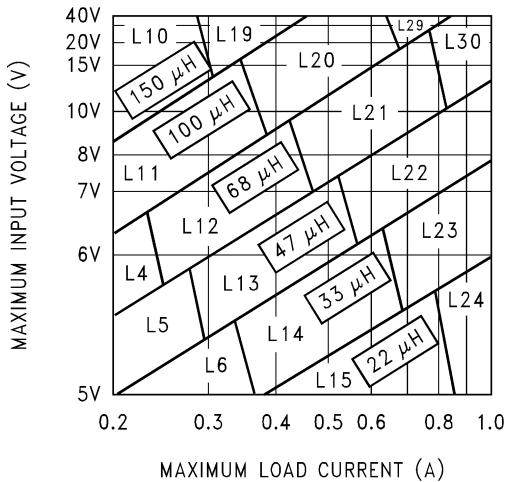
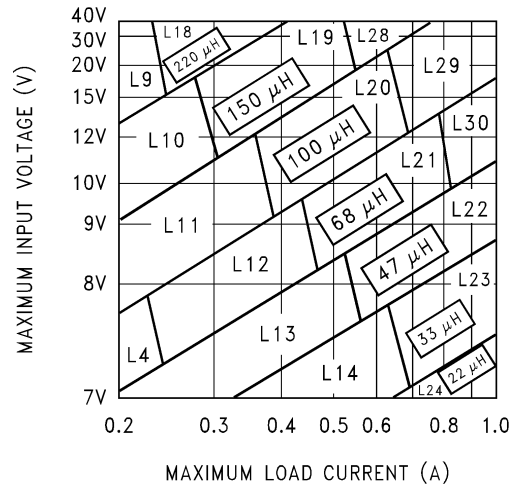
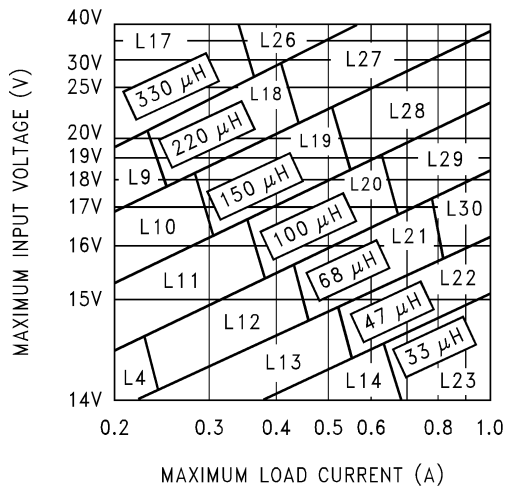

Figure 25. LM2598-3.3
Figure 26. LM2598-5.0
Figure 27. LM2598-12
A. Select the correct inductor value selection guide from Figures <a href="#">Figure 25</a> , <a href="#">Figure 26</a> , or <a href="#">Figure 27</a> (Output voltages of 3.3V, 5V, or 12V respectively.) For all other voltages, see the <a href="#">Design Procedure</a> for the adjustable version.	A. Use the inductor selection guide for the 5V version shown in <a href="#">Figure 26</a> .
B. From the inductor value selection guide, identify the inductance region intersected by the Maximum Input Voltage line and the Maximum Load Current line. Each region is identified by an inductance value and an inductor code (LXX).	B. From the inductor value selection guide shown in <a href="#">Figure 26</a> , the inductance region intersected by the 12V horizontal line and the 1A vertical line is 68 $\mu H$ , and the inductor code is L30.